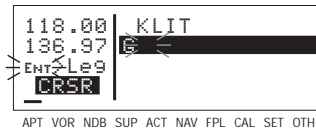

Figure 3-142
2. With the right inner knob, select the desired character, if any, and move the cursor to the next character on the line (figure 3-142).